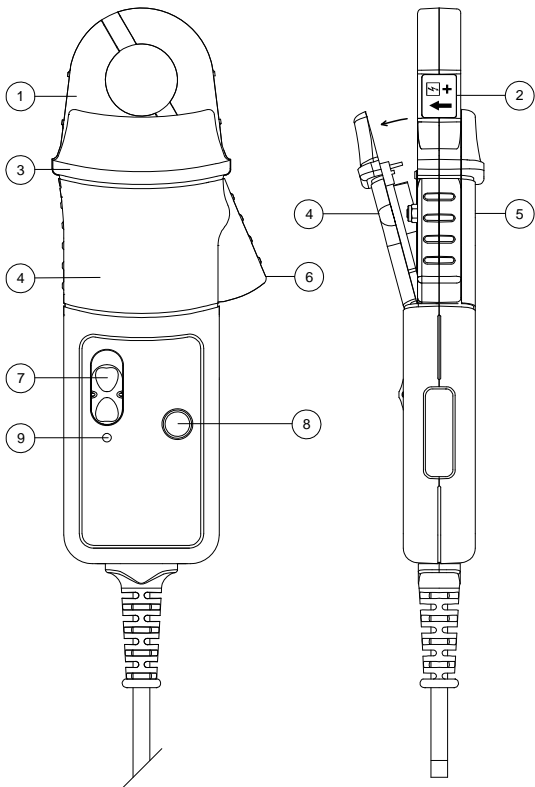

FIG 1
- Do not hold the probe anywhere beyond the tactile barrier see FIG 1, in order to avoid dangerous contact with the conductor.
The green or red LED will flash when the minimum operating voltage is approached. Refer to Fig.1. Use the following procedure.
Loosen the captive screw which secures the battery cover. Lift the cover through 30° and pull it clear of the probe body as shown in Fig 1. Replace the battery and re-fit the battery cover and fasten the screw .
Safety in its use is the responsibility of the operator who must be a suitably qualified or authorised person. Ensure that your fingers are behind the **protective barrier** see FIG 1 when using the probe. Always inspect the probe for damage before use.